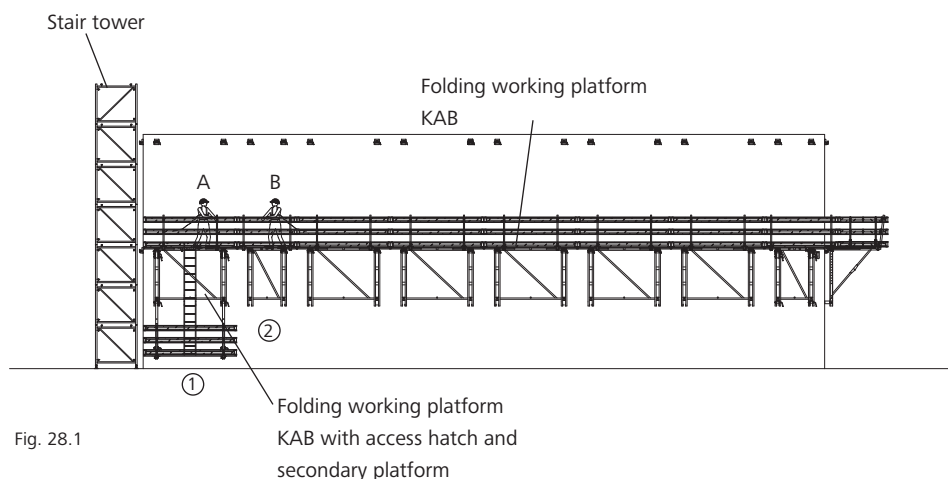

Fig. 28.1
4. The next cycle is poured and in the process equipped with climbing cones in order to be able to suspend platforms. After stripping, suspension shoes KAB are installed on the climbing cones (Fig. 28.1).
5. Person B protects themselves against falling by wearing personal protective equipment and climbs onto the platforms via the stair tower to continue the repositioning (Fig. 28.1).